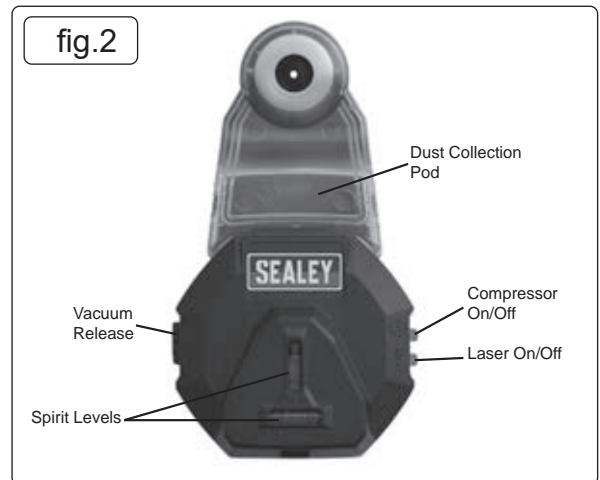

fig.2
- 4.1.3. When happy with your placement turn on the suction (fig.2). The device will now be stuck to the wall. The vacuum can be released using the button on the side of the body (fig.2).